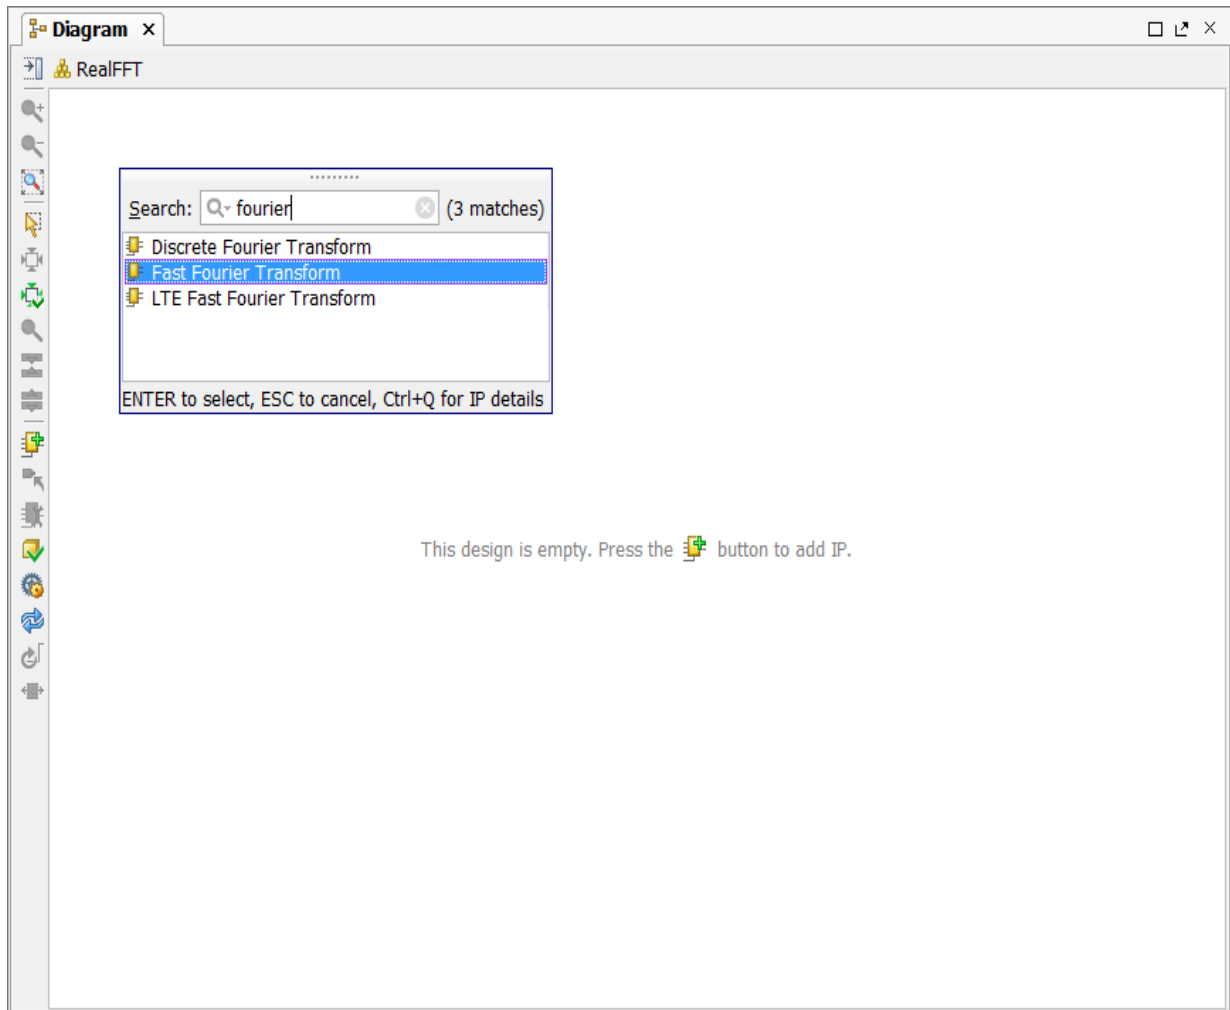

Figure 9-11: Add the Xilinx FFT IP
2. In the Diagram tab click the **Add IP** link (Figure 9-11).